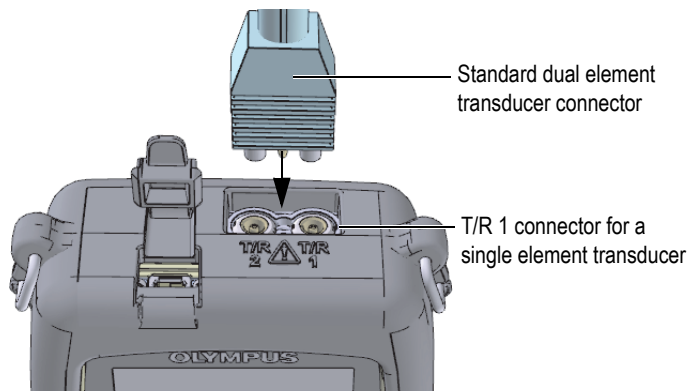

Figure 5-1 Plugging in the transducer
1. Plug the transducer into the transducer connector(s) on the top of the 45MG case (see Figure 5-1 on page 54), using only T/R 1 for a single element transducer.